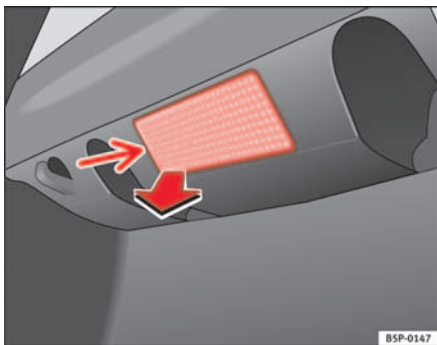

Fig. 195 Luggage compartment light
- Extract the tulip shaped fitting by pressing on the inside edge of this -arrow- using the flat side of a screwdriver ⇒ fig. 195.